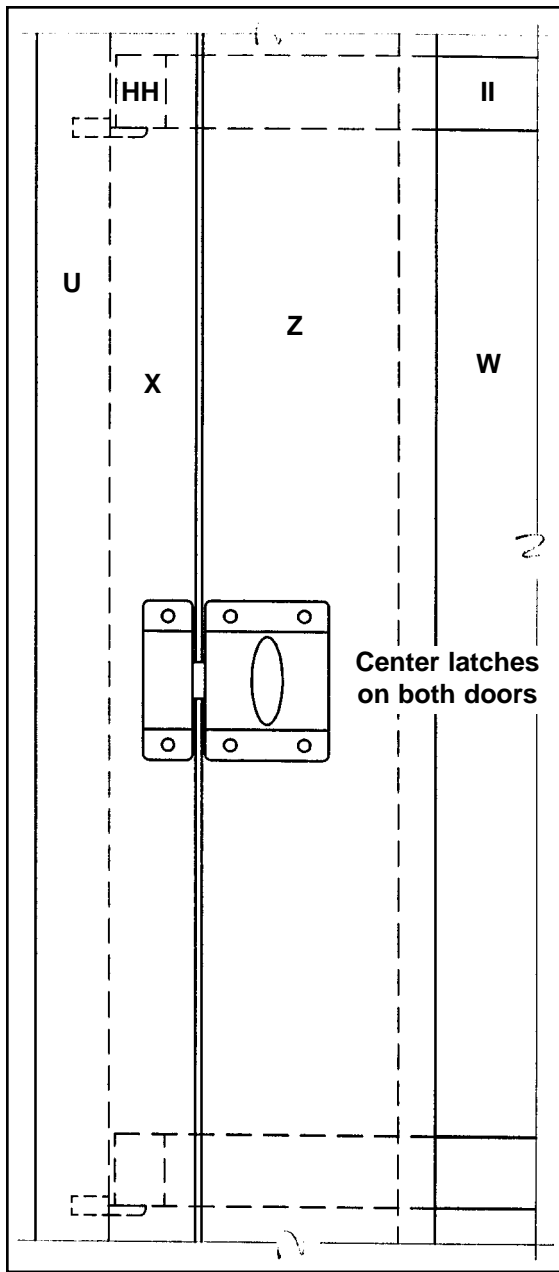

Figure 5
11. Attach upper cabinet face frame (X, Y) to boards U using 1 1/4" finish nails and glue. Refer to Isometric and Figures 5 and 6.